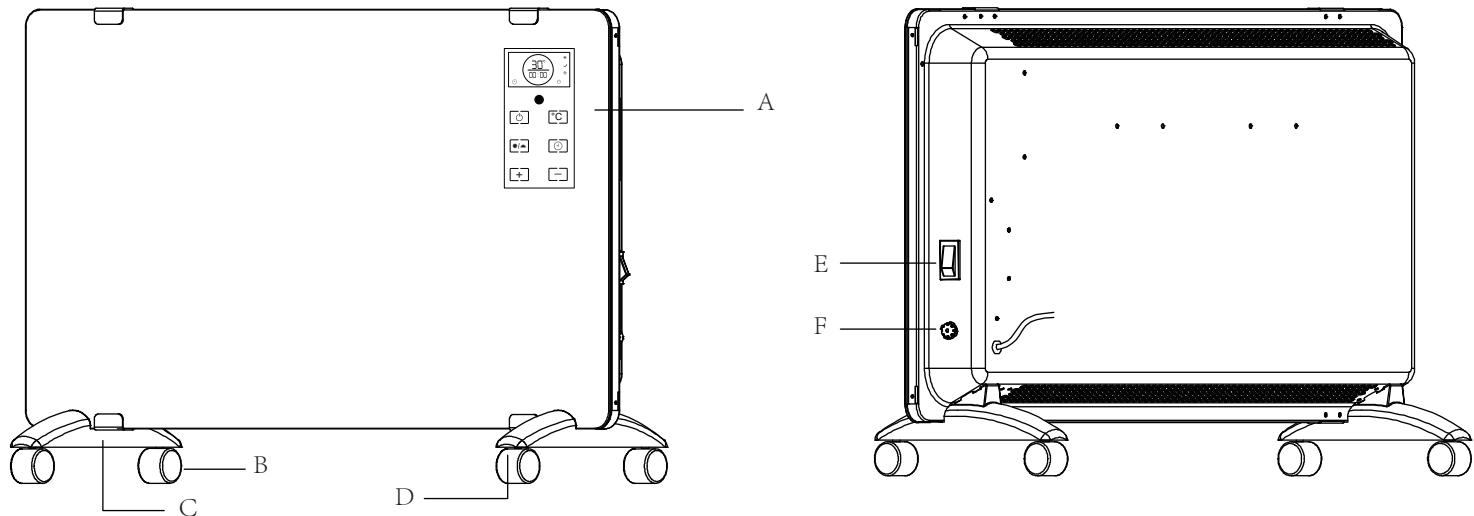

FIGURE 1
Power	After powering ON main plug, turn the side switch ON (Refer Figure 1 Point E). Press the power button to activate the device in standby mode.
3. On the side of the device, set the switch (Point E) to ON position (Refer Figure 1). The device will start with a beep sound and the LCD display will light up.